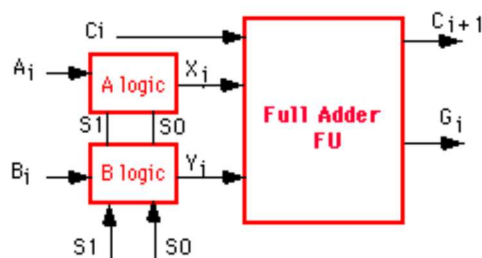

Figure 4: Schematic block diagram of the arithmetic unit.
3. *Design the arithmetic unit.* Again, here you have different choices to design and implement the arithmetic unit. A particularly attractive method is one that makes use of previously designed modules, such as your Full Adder. The arithmetic unit performs basically additions on a set of inputs. By choosing the proper inputs, one can perform a range of operations. This approach is shown in Figure 4. The only blocks that need to be designed are the A Logic and B Logic circuits. You can make use of your previously designed full adder (MYFA).